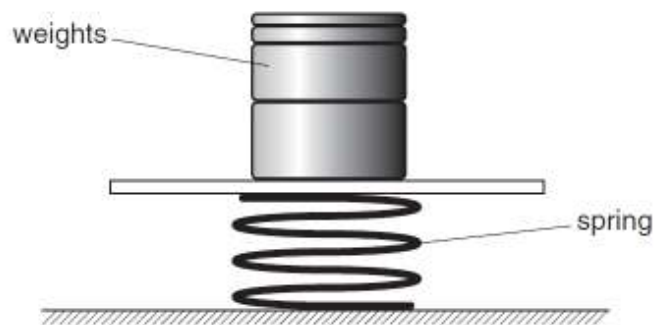

Fig. 2.1
- 2** A spring is placed on a flat surface and different weights are placed on it, as shown in Fig. 2.1.